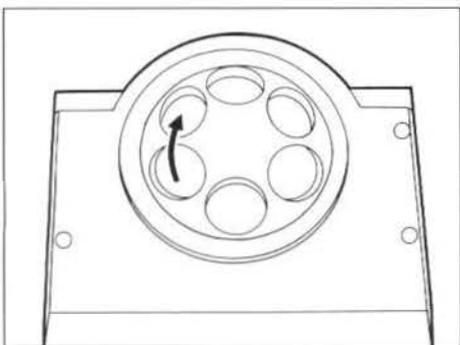

Fig. 10
1. Place the revolving nosepiece on a bench with the threaded objective holes facing upward. Attach in the objectives, from the lowest power to the highest, in a clockwise direction. (Fig. 10)